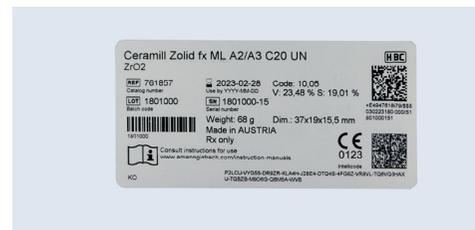

Fig. 2: Packaging label
- \_ If you require a four-digit code for your system, you will also find the magnification factor "V" on the packaging or product label (Figs. 2+3).